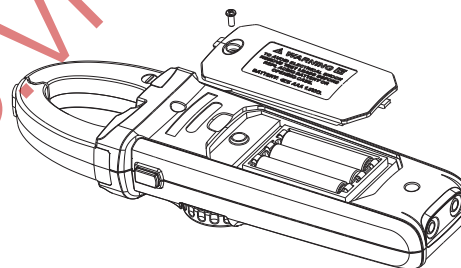

Figure 15
X. Maintenance and upkeep (see Figure 15)